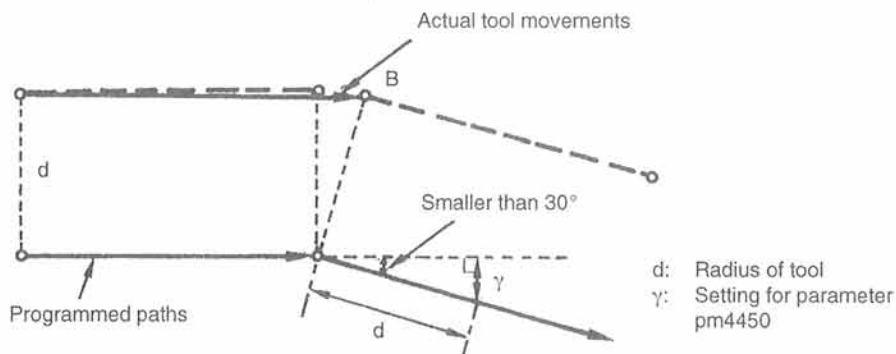

Fig. 3.81 Tool Movements with Small Tangential Angle of Programmed Paths
- Even in the M96 mode, if the tangential angle made between the axis movements specified in the program is smaller than  $30^\circ$  or if  $\gamma$  is smaller than a certain value as shown in Fig. 3.81, round-the-arc motion is not made, but the cutting tool directly moves to point B. Value of  $\gamma$  is set for parameter pm4450. Note that since the value set for pm4450 is also used as the minimum distance for the execution of circular interpolation, the setting for this parameter has influence on normal circular interpolation.